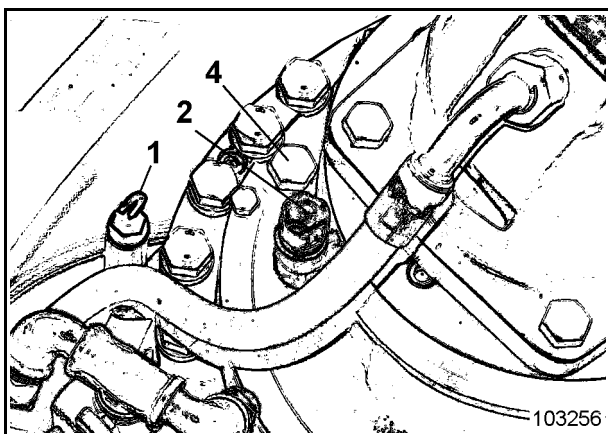

Fig. 3-106:
- Unscrew plug (4, Fig. 3-106:) and fill in new oil.
- Check oil level with dipstick (1, Fig. 3-106:).
- Screw in plug (4) again.
The gearbox is vented through breather filter (2, Fig. 3-106:).